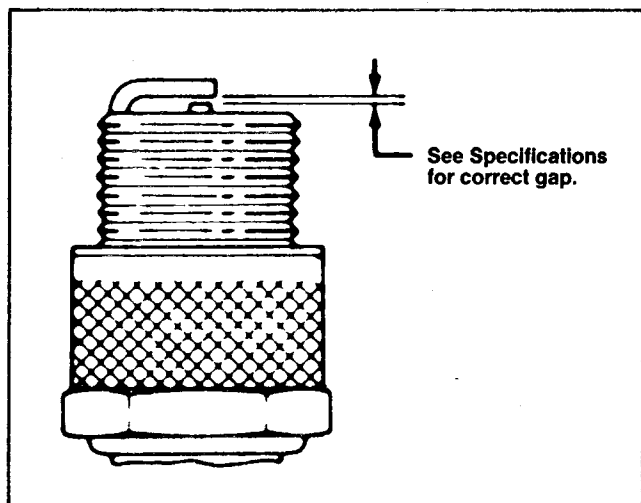

Figure 10
3. Set air gap between electrodes of new spark plug. See Figure 10. Next, install the spark plug in the cylinder head. Torque plug to 15 ft-lb. If torque wrench is not used, tighten plug firmly.